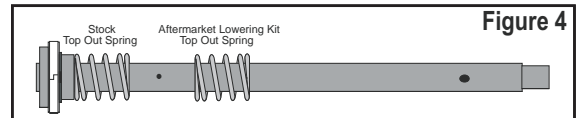

Figure 4
- If your bike is currently equipped with any type of fork lowering kit, such as a Burly Brand LOWBOY or other, You **MUST** remove that kit before installing this Slammer Kit. The Slammer fork kit is designed to work **ONLY** with the Stock fork rebound or top out springs. **WARNING** Failure to remove existing fork lowering kit components will result in unsatisfactory performance and may lead to fork damage, loss of vehicle control and injury. **Figures 4 & 5**